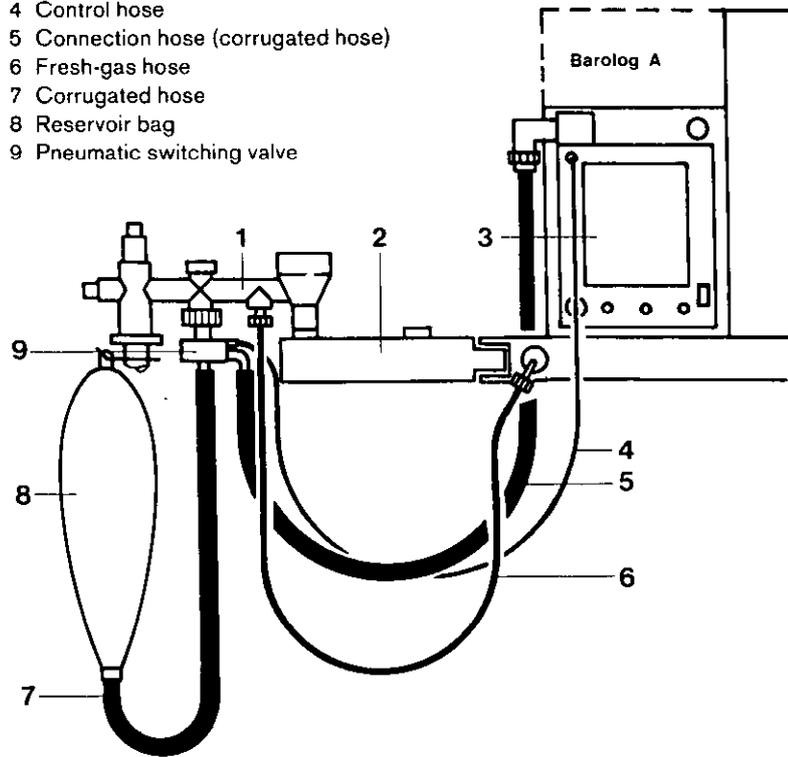

Fig. 8 Sulla 808 V: Front view –
(Figs. 8 and 9)
Items 3, 4, 5 and 9 are inapplicable. Connect fresh-gas hose 6 according to Fig. 8.
Either attach reservoir bag 8 directly to circle system 1 or use corrugated hose 7 (as shown in Fig. 8).
Connect control hose 4, connection hose 5 and fresh-gas hose 6 in accordance with Fig. 8.
Either attach reservoir bag 8 directly to pneumatic switching valve 9 or use corrugated hose 7 (as shown in Fig. 8).
1) Re Fig. 8: specific instructions for use apply to these components